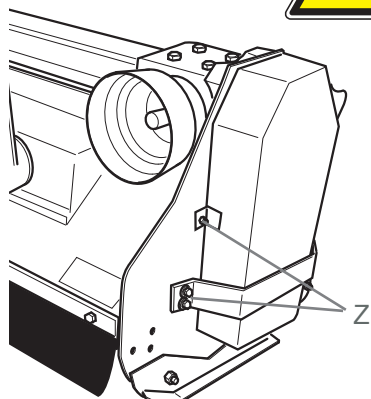

Fig. 41
- 1) Remove the cover protection and the belt guard cover by unscrewing the screws Z (Fig. 41).
- 2) Loosen the mounting bolts H of the multiplier support (Fig. 41).